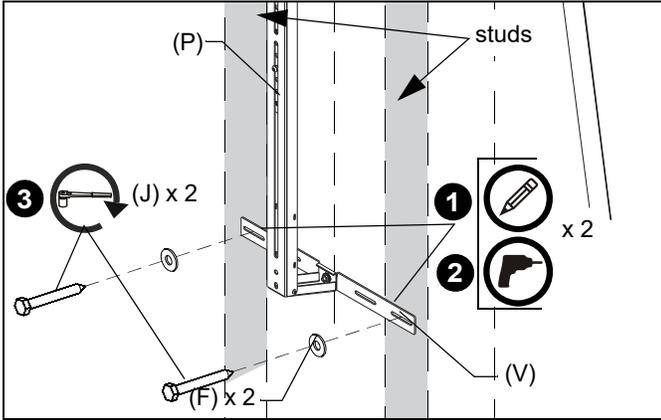

Figure 20
1. Mark the wall over stud through the lower wall bracket (V) attached to each upright assembly (P). (See Figure 20)
2. Drill one 1/8" pilot hole (wood studs) or 1/2" pilot hole (steel studs) at each mark. (See Figure 20)
3. Use two 1/4" x 2-1/2" lag bolts (J) and two 1/4" flat washer (F) to attach each lower wall bracket (V) to wall. (See Figure 20)